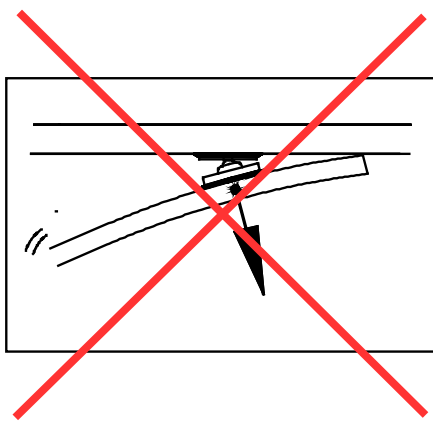
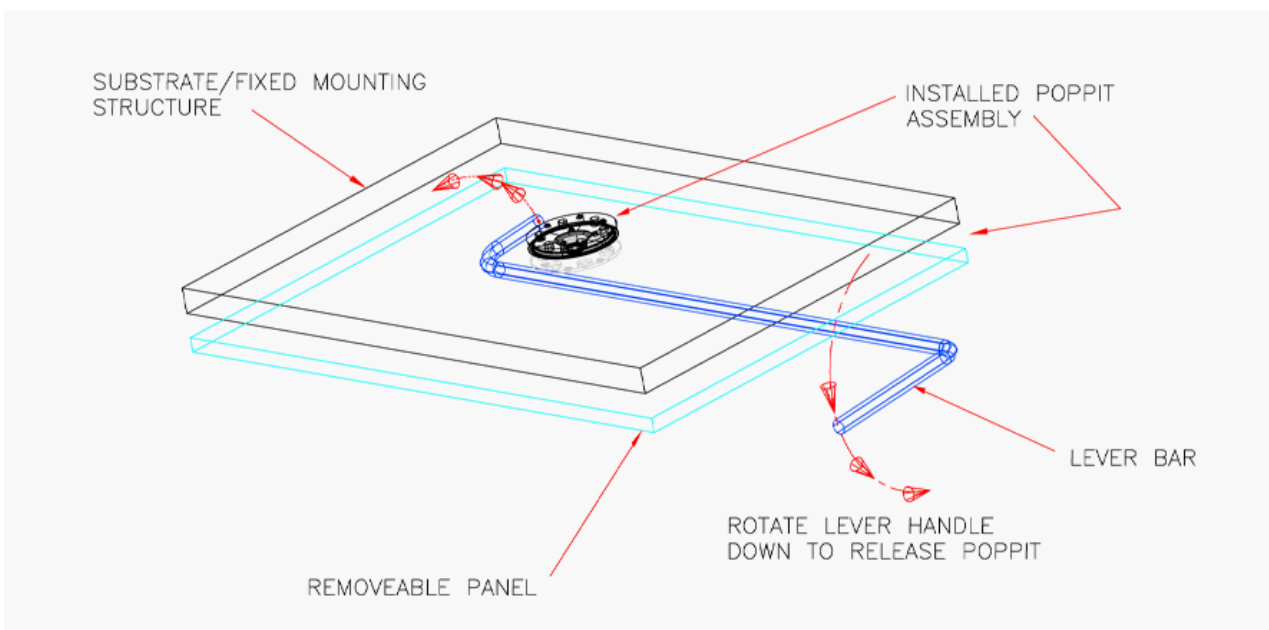

Fig. 1
Fig. 3
- **Don't** use the panel as a lever to `unsnap' the Poppit; Fig 1 & 2 above. bigHead recommend using a lever-bar to apply the force locally to the fitting, (similar to Fig 3 below)...